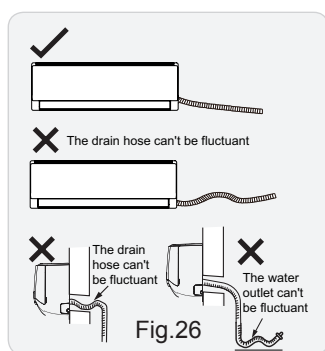

Fig.26
- (2) Slant the drain hose slightly downwards. The drain hose can't be curved, raised and fluctuant, etc.(As show in Fig.26)